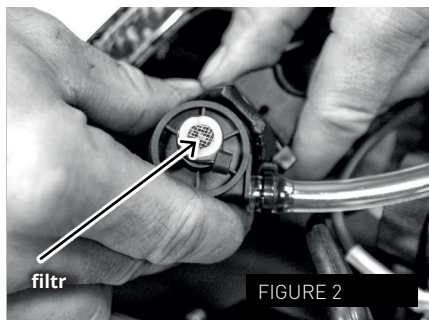

FIGURE 2
3. Clean the bilge pump filter – FIGURE 2.